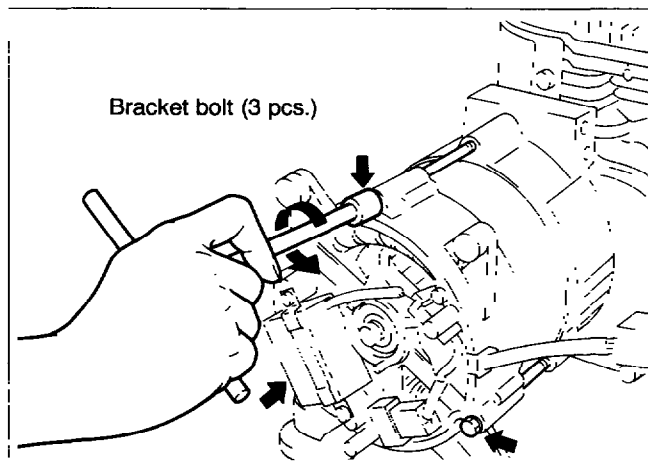
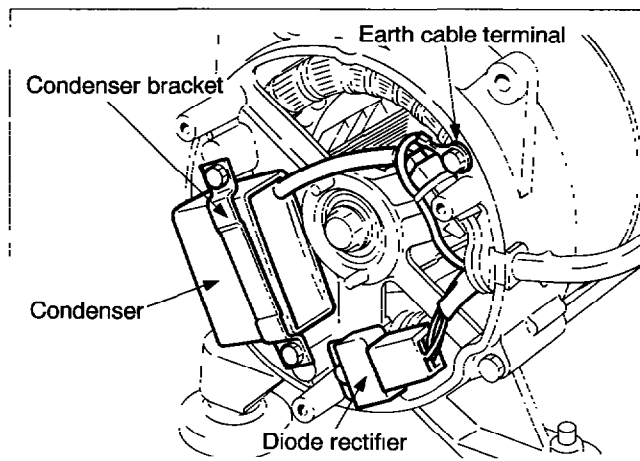

Fig. 10-15
Fig. 10-16
| 11. | Rear bracket | <p>(1) Loosen and take out the three M6 bracket bolts. (See Fig. 10-15.)</p> <p>(2) Remove condenser from rear bracket.</p> <p>(3) Remove the connector of the diode rectifier and then remove the earth cable terminal from the rear bracket. (See Fig. 10-16.)</p> | | <p>10mm box wrench</p> <p>Box spanner</p> <p>Box spanner and screw driver (+)</p> |